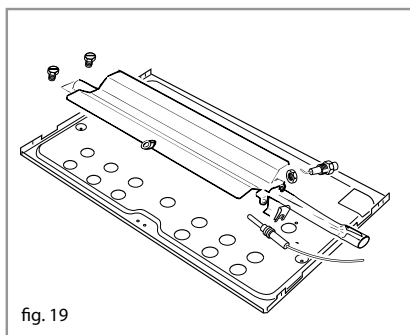

fig. 19
3. Remove two securing screws at the left hand side of the burner, marked A (as shown in fig. 19) and move the burner to the right to allow access to the injector.